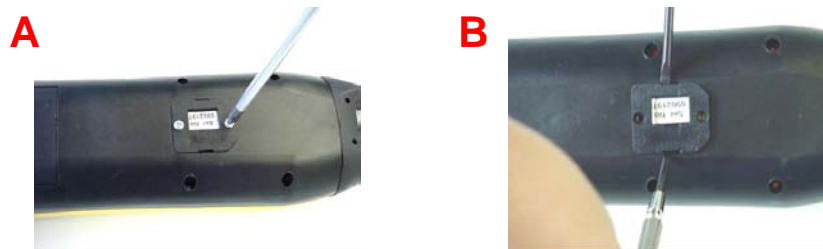

Figure 9: Extracting the EP70 Memory Module
2. Ensure the spare transmitter is OFF. Remove the EP70 Memory Module in the transmitter as shown in Figure 9 above.